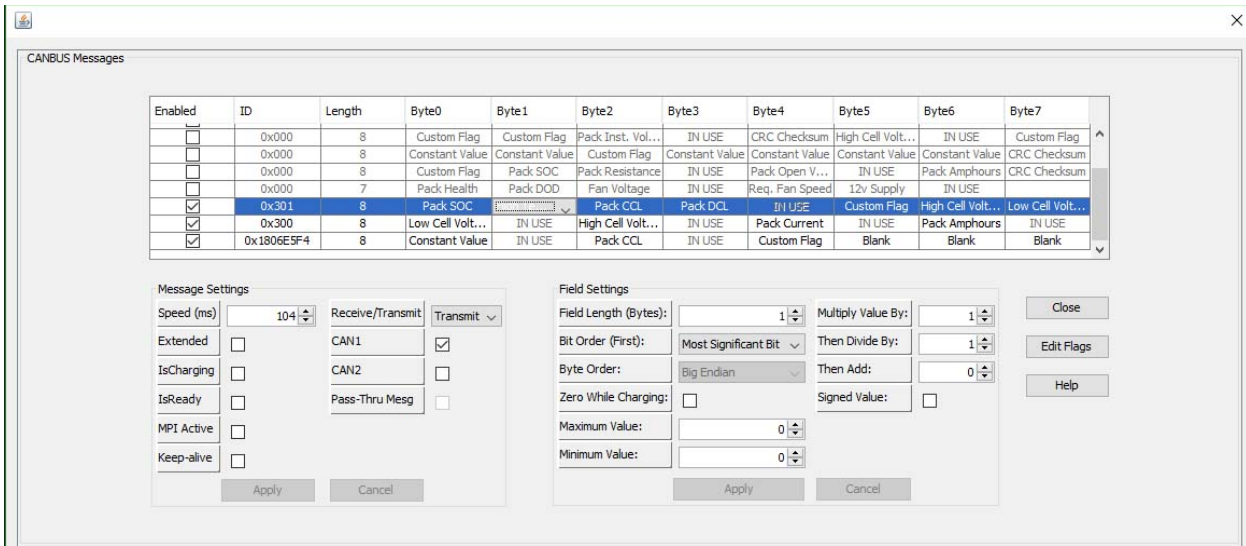

Fig. 23
6. Make sure that the Message and Field Settings for **High Temperature** are the same as in (Fig 23).